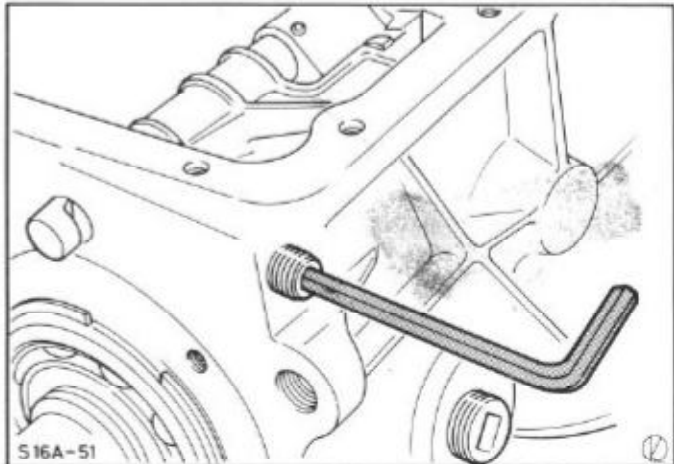

Fig.143. Refit pin and spring retaining plug.
53. Insert the locking pin and spring into the side of the transmission, apply specified sealer to retaining plug (see Technical Data) and refit, Fig.143.